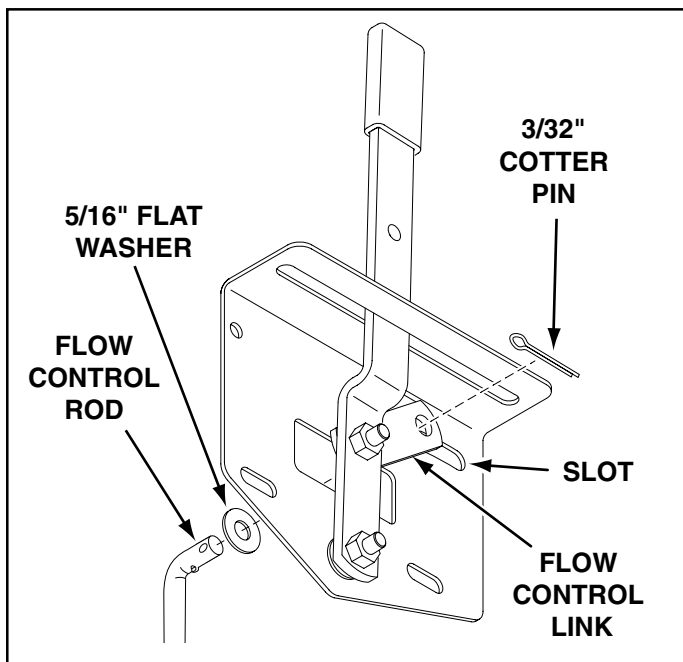

FIGURE 8
18. Place a 5/16" flat washer onto the end of the flow control rod. Insert the end of the rod through the slot in the flow control mounting bracket and through the hole in the flow control link. Secure with a 3/32" x 3/4" cotter pin. See figure 8.